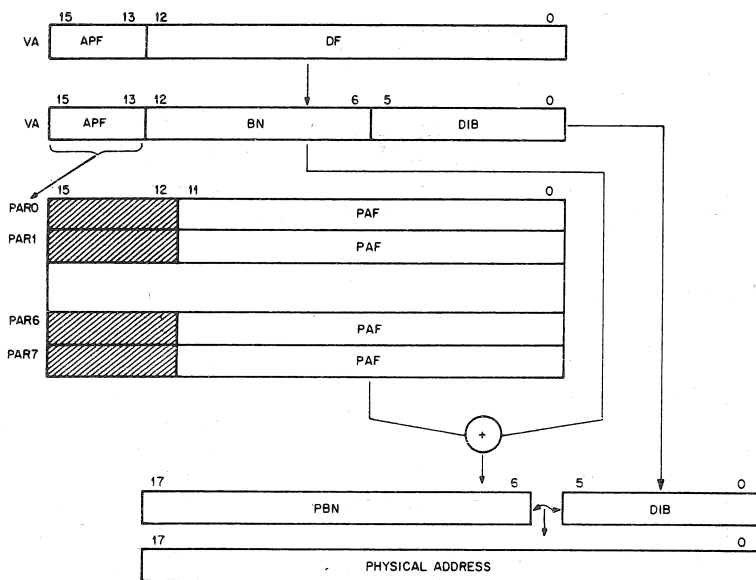

Figure 11-4 Construction of a Physical Address
The formation of the Physical Address (PA) is illustrated in Figure 11-4.